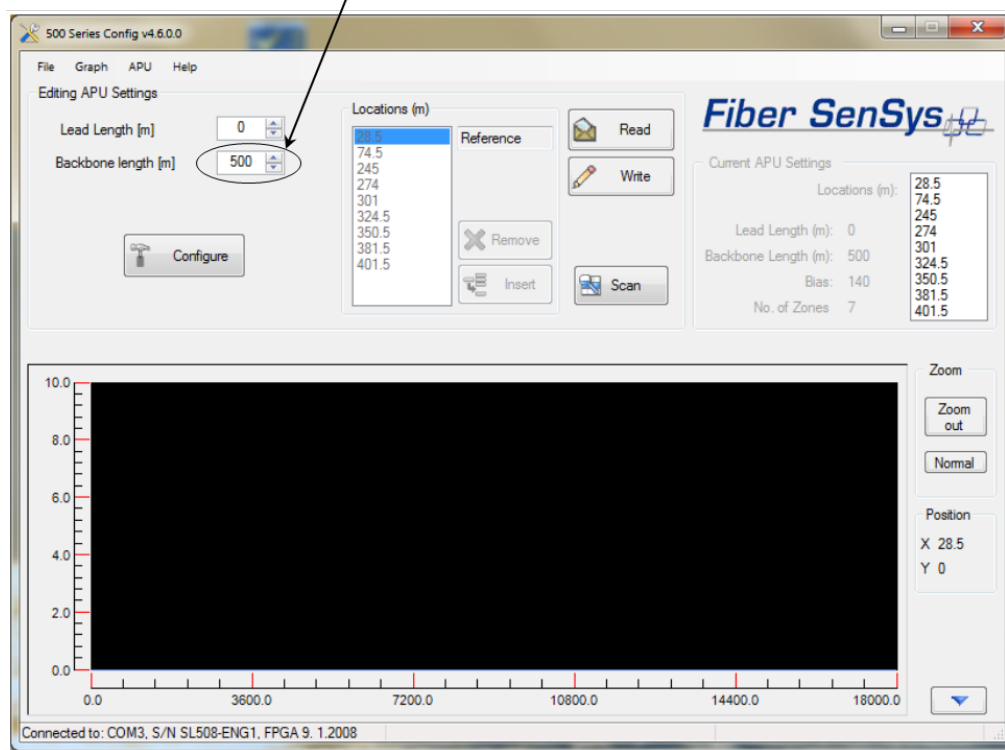

Figure 4-1. The **FD508 Config** screen, prior to making the first scan.
- e. Notice the number next to “Backbone length (m)” (see figure 4-1).